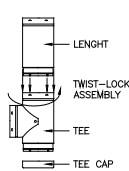

Fig. 2
- To start the liner installation, attach the tee to the first length. Insert the liner with the male (smaller connection) end down. Twist lock the part together (fig.2). Attach the tee cap to the base of the tee.
2. Attach the tee to the first liner length. Insert the liner with the male (smaller connection) end down. Twist lock the parts together (fig. 2 page 4).